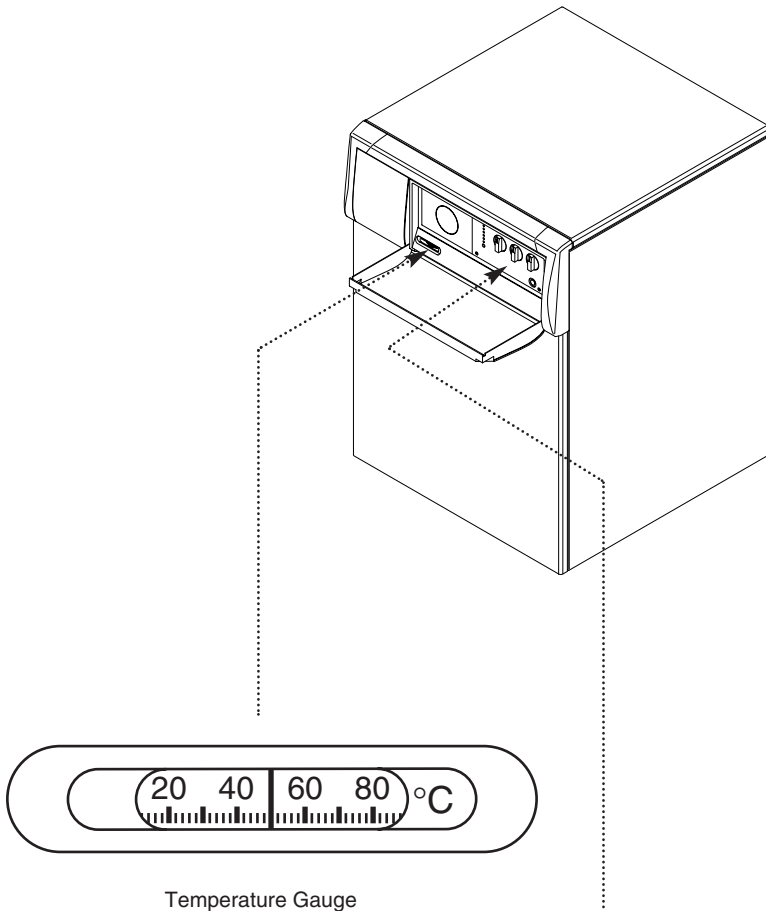

Fig. 13
3.8 Temperature Gauge (Fig. 13)